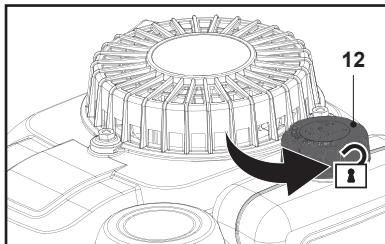

Fig. 6
3. Unscrew and remove the fuel tank cap (12) (Fig. 6).